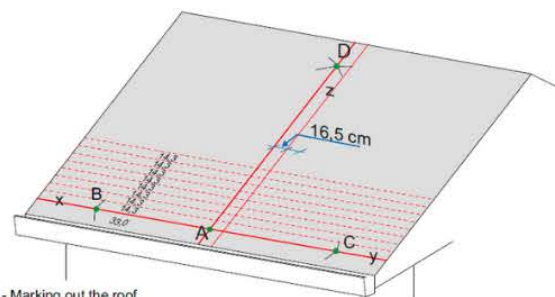

Fig. 1 - Marking out the roof
- From each other up to the ridge. (Refer Fig.1).